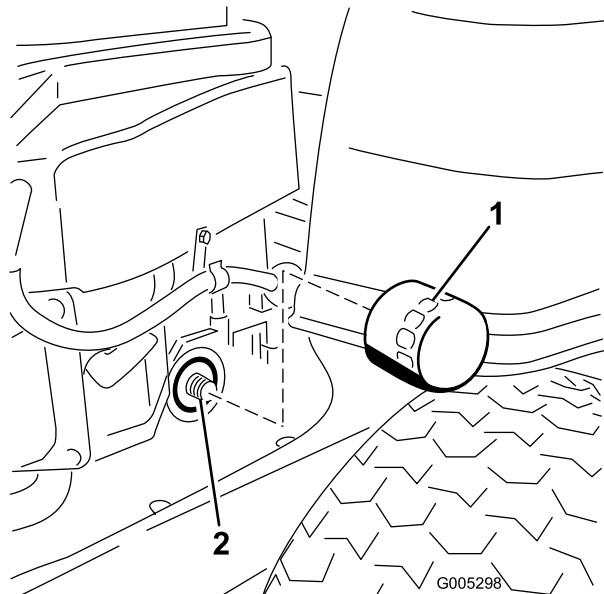

Figure 32
10. Locate the oil filter on the right side of the engine. Remove the old filter and wipe off the filter adapter with a clean cloth (Figure 32).
Turn the oil filter clockwise until the rubber gasket contacts the pad, then tighten the filter an additional 3/4 to 1 turn (Figure 32). Wipe up any excess oil on the frame.